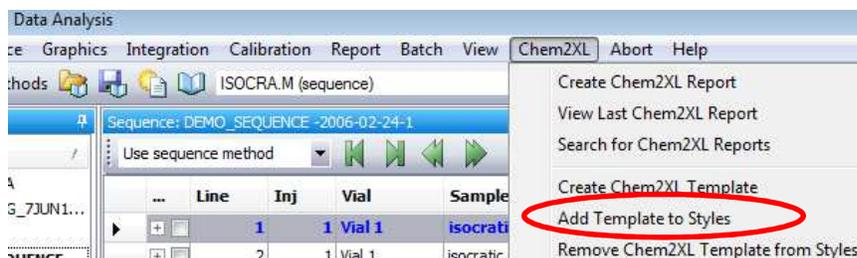

Figure 3.11 Add Chem2XL template to ChemStation Styles.
18. To create a Chem2XL report, it is necessary to add the template to the ChemStation report styles. After creating a template and saving it (steps 1-17), select Chem2XL drop-down menu, then click on *Add Template to Styles* (see Figure 3.11 & 3.12).